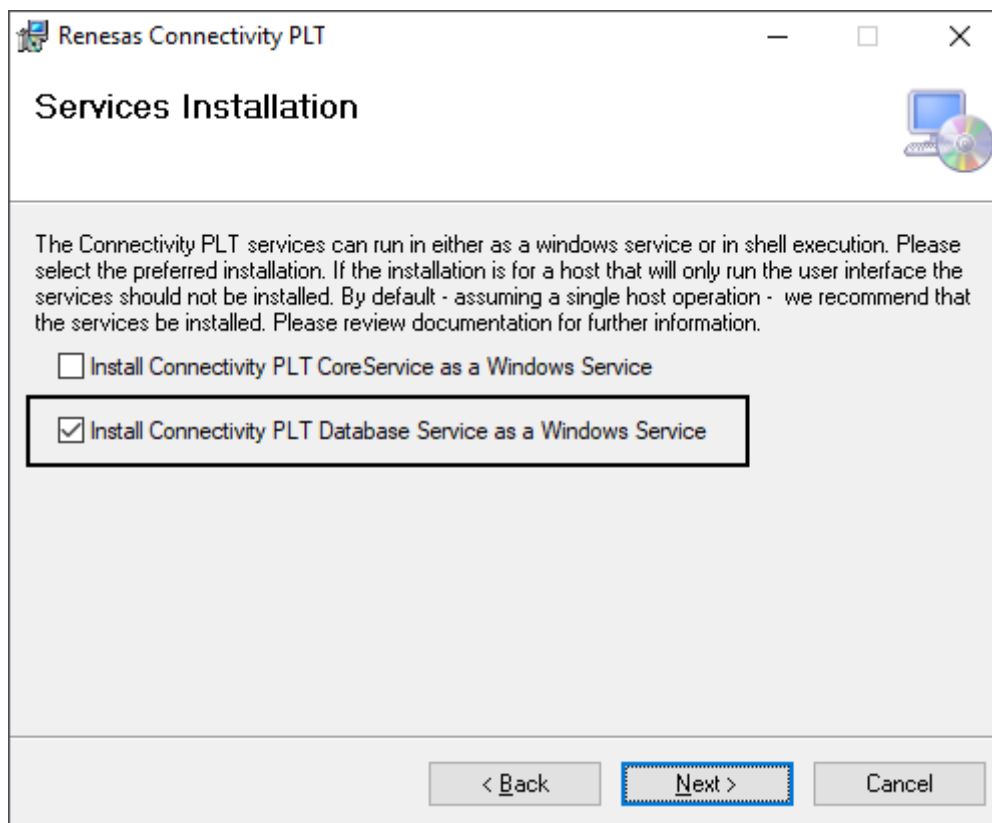
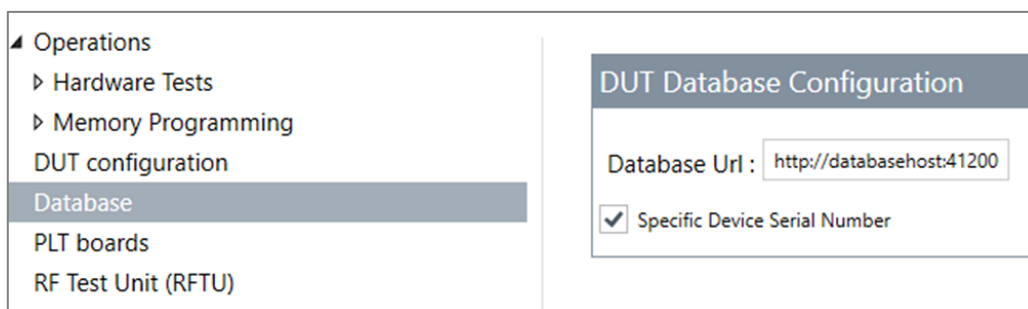

Figure 15. Database Service Installation
Figure 16. Database Host configuration
- **Database Service System** – to use another host only as the database service, complete the installation enabling the Renesas Connectivity PLT Database Service Windows service during the installation and disabling the CoreService installation (Figure 15). Remember the IP address of this host as well. For the CoreService to communicate with the database on separate host, the configuration should be updated with the correct IP address or host name as shown in Figure 16.